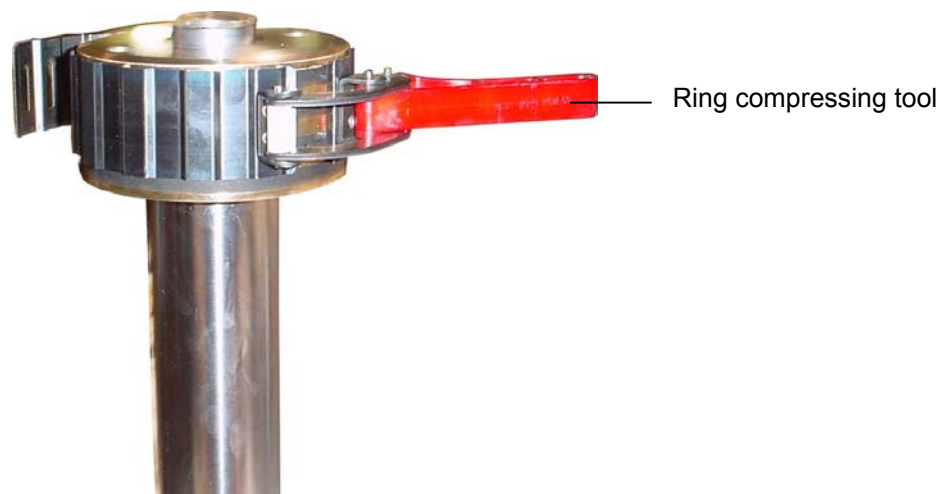

FIGURE 16
After the (4) piston rings have been installed, place the head/tube assembly in the vertical position. Lubricate the rings and piston with system hydraulic fluid. Using a ring compressing tool, push the piston into the tube. See Figure 16.